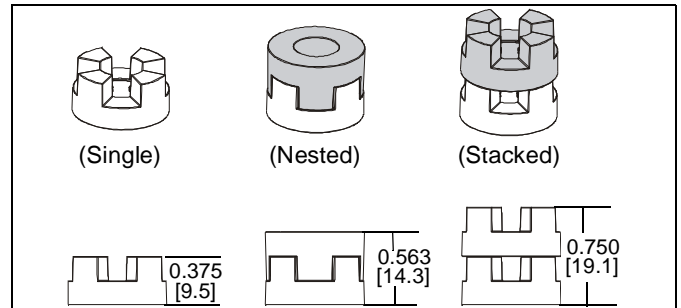

Figure 3
NOTE: The nesting spacers (HM) may be used separately, or put two together in different configurations to create different size spacers. (See Figure 3)